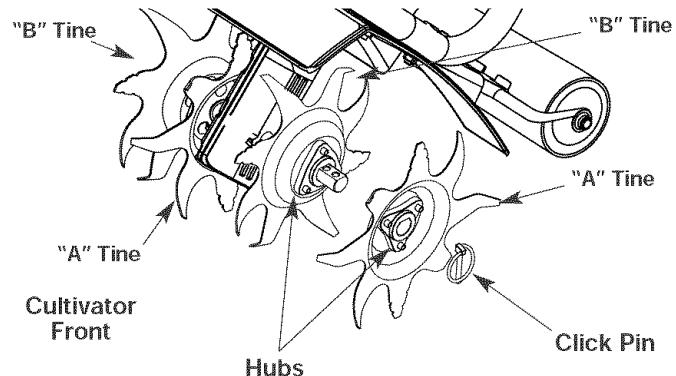

Fig. 12a
1. Put the On/Off Stop Control in the STOP (O) position and disconnect the spark plug boot from the plug.
2. Remove the click pin from each end of the tine shaft. Slide the tines off of the shaft (Fig. 12a).
5. Using Figures 12a and 12b for reference, slide on the new tines with the **hubs facing outward**.